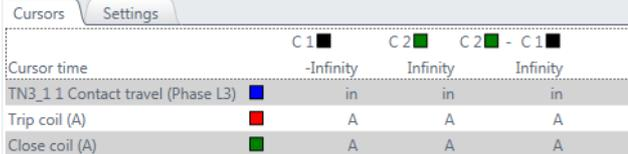

Figure 5-13 Example of the graphical display of measurement data
Because the graphical display may contain curves with different units, for example, Volts, Amperes or Ohms, the scale on the Y-axis has no units but a unitless numbers called division (div). On the **Settings** tab, you can set how many, for example, Amperes shows the graphical display per division. As an example, the B-2 (A) channel in Figure 5-13 "Example of the graphical display of measurement data" on page 49 has its highest peak at the seventh division. As the offset on the Y-axis is 1 division and the magnitude is 1 A/div (see Figure 5-15), the peak close coil current is approx. $(7-1) \times 1 = 6$ A.